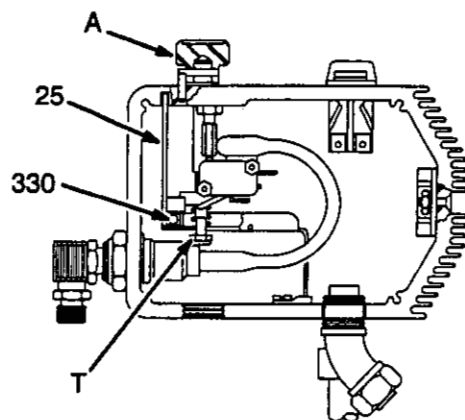

Fig. 22
Refer to Fig. 22 and 23.
2. Turn the pressure control knob all the way counterclockwise to the minimum setting to release spring tension on the board. Also check to be sure only three or four threads of the pressure control knob shaft are exposed below the pressure adjustment nut (T). Back down the nut, if necessary. See Fig. 22.